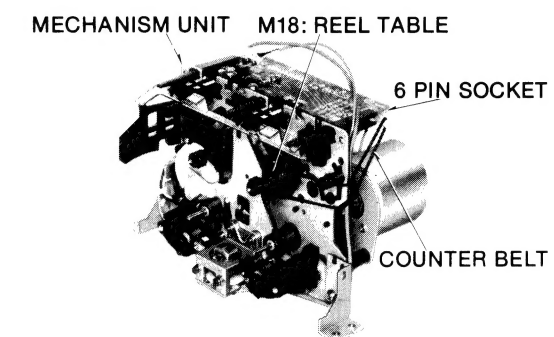

Fig. 12
- Before attaching the Mechanism Unit to the Front Panel Assembly, thread the Counter Belt over the Reel Table (M18) and the 6-pin Jumper Socket Cover as shown in Fig. 12, and then secure the Mechanism Unit with two screws (K) (Refer to the Fig. 7.). Then, remove the Counter Belt from the 6-pin Jumper Socket Cover, and thread it over the Tape Counter Pulley as shown in Fig. 7. Make sure that the Counter Belt is not twisted.